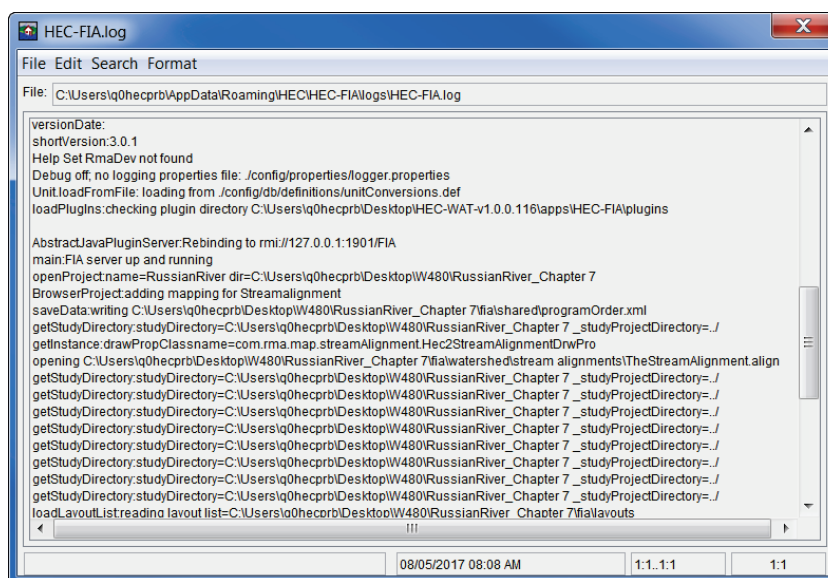

Figure B.26 HEC-FIA.log Editor
1. From the HEC-WAT main window (Figure B.2), from the **Tools** menu, point to **Logs**, click **FIA**, the **HEC-FIA.log Editor** will open (Figure B.26).